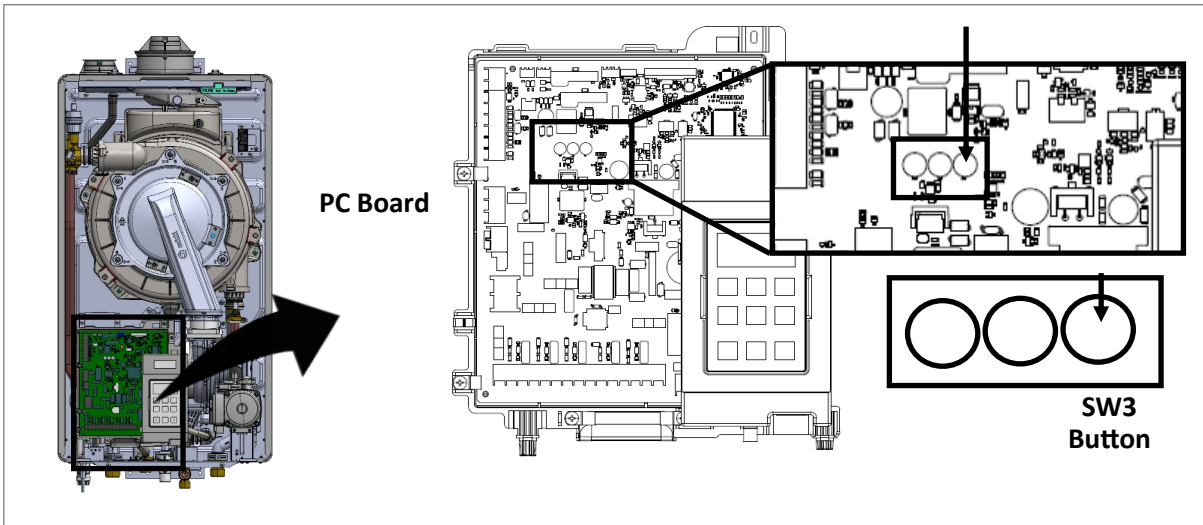
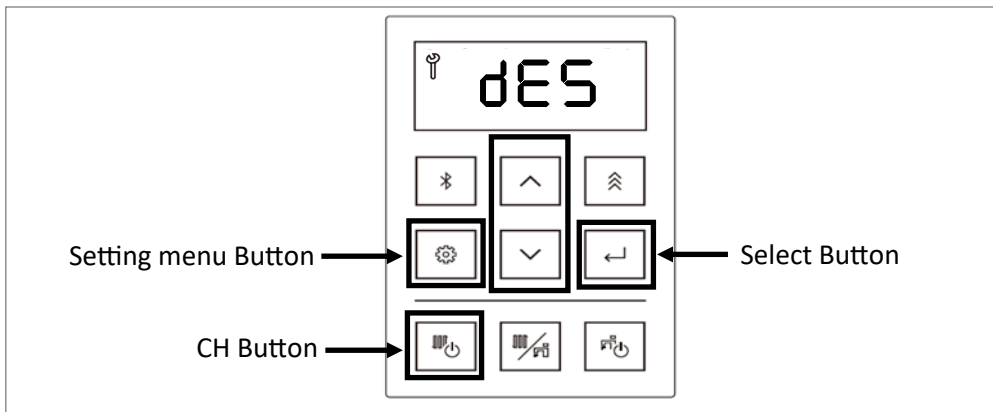

Figure 145
Figure 146
4. Press the SW3 button on the PC Board (Figure 145).
5. Press the up or down arrow button on the controller to select dES (descaling) (Figure 146).
6. Press the Select button to select the dES (Figure 146).
8. Press the Central Heating (CH) button to start the count down (Figure 146).
Note: If you need to cancel this procedure, you may press the Setting menu button on the controller (Figure 146), or press the SW3 button on the PC Board (Figure 145).